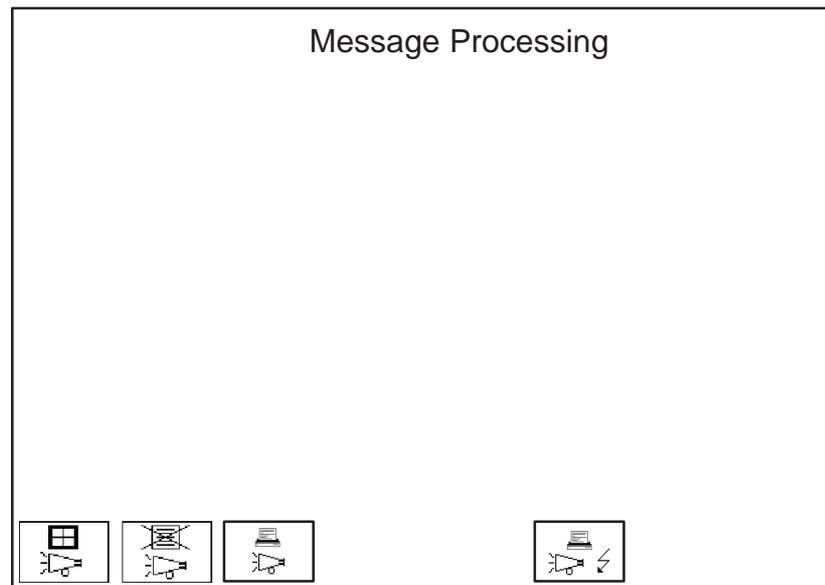

Figure 6-5 *Message Processing* standard screen (example: OP37)
**Purpose** Functions are configured in the *Message Processing* standard screen which are necessary to view and delete messages (Figure 6-5).